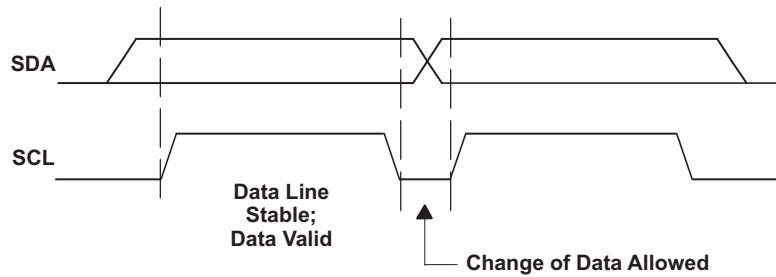
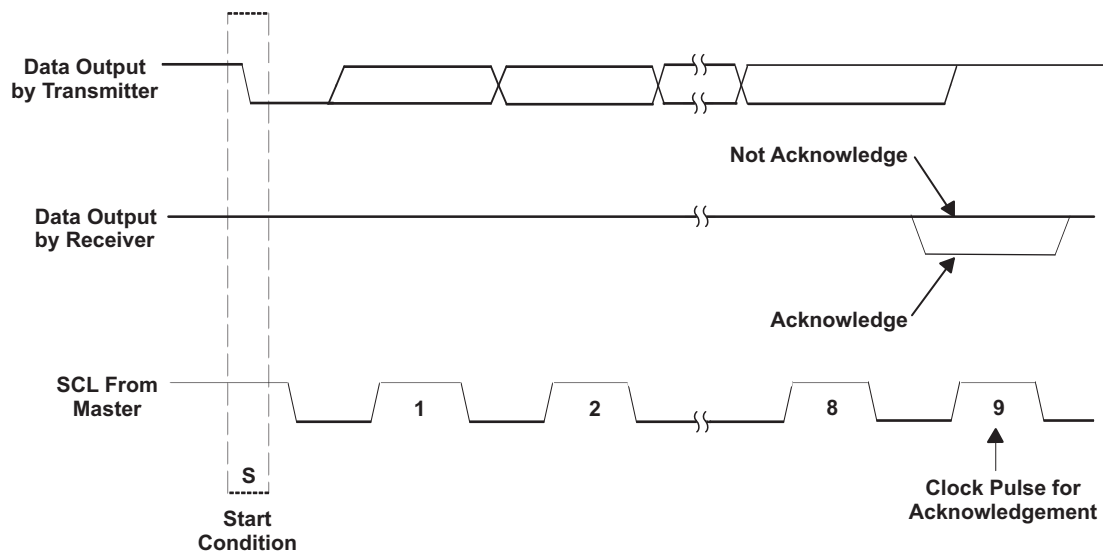

Figure 71. I2C Bit Transfer
Figure 72. I2C Acknowledge
- The master then generates the SCL pulses and transmits the 7-bit address and the read/write direction bit R/W on the SDA line. During all transmissions, the master ensures that data is valid. A valid data condition requires the SDA line to be stable during the entire high period of the clock pulse (see Figure 71). All devices recognize the address sent by the master and compare it to their internal fixed addresses. Only the slave device with a matching address generates an acknowledge (see Figure 72) by pulling the SDA line low during the entire high period of the ninth SCL cycle. On detecting this acknowledge, the master knows that a communication link with a slave has been established.